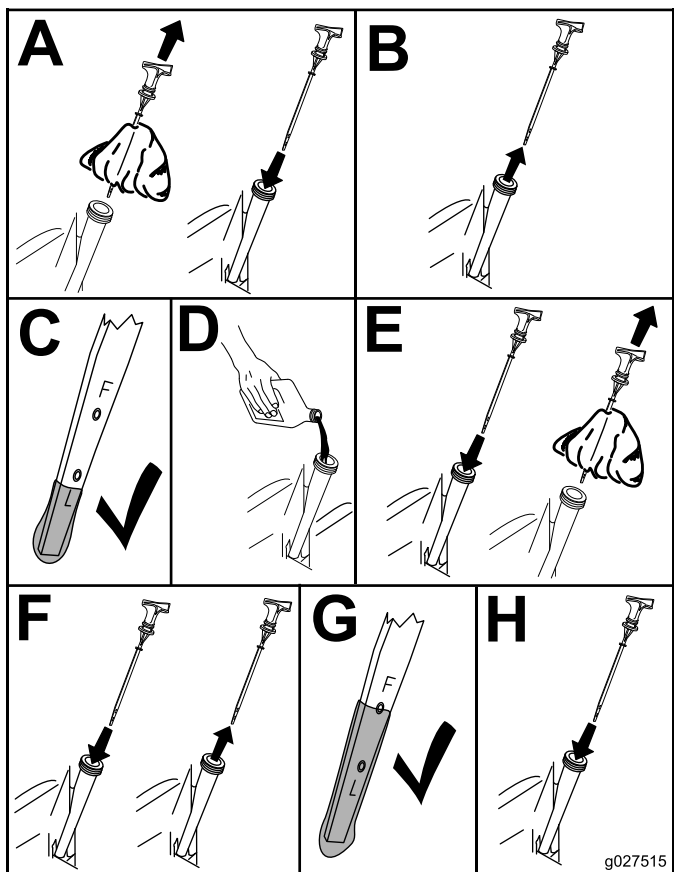

Figure 37
3. Check the engine-oil level (Figure 37).